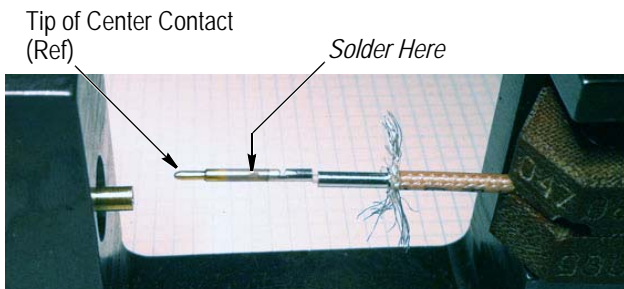

Figure 4
3. Position the center contact in the solder fixture contact holder so that the wire barrel is seated against the cable dielectric and the seam is facing up. See Figure 4, Detail A.
4. Insert solder through the small port in the side of the center contact. Inspect the port for proper wetting and adequate fill. See Figure 4, Detail B.